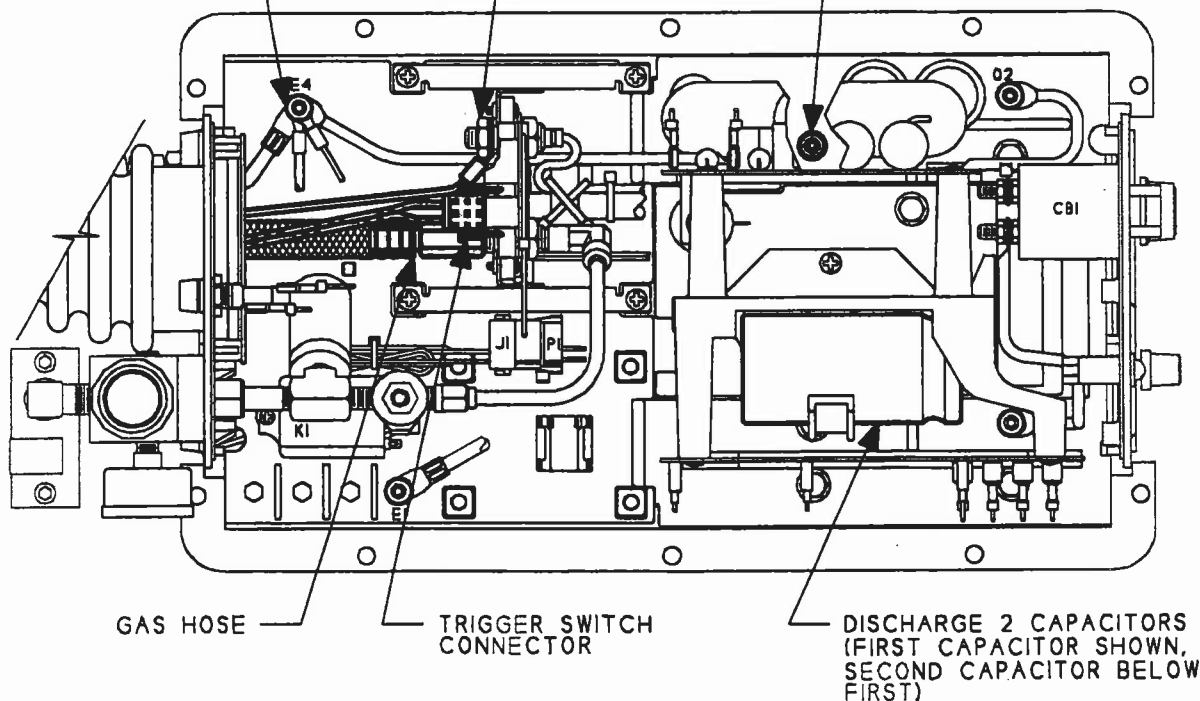

Figure 4 - Top View, Cover Off
Before opening the StarCut case, be sure that the unit is disconnected from the welding power source and that the ground clamp is removed from any possible live metal. The StarCut circuit breaker should be in the OFF position to help prevent electrical shock. Also be sure to **COMPLETE THE CAPACITOR DISCHARGE PROCEDURE** once the case top is removed, and before touching any metal parts inside the StarCut unit. Refer to Figure 4, "Top View, Cover Off" during this section.
- A)  With the StarCut unit disconnected, upright and cure. Remove the nuts from the ten (10) bolts securing the case top and the case bottom which sandwich the white chassis, push out the bolts. Save all hardware for later reassembly. Four (4) bolts will be longer if wireform guards are installed on your StarCut.
- C) Locate the two input capacitors inside the unit as shown in the Figure 4, "Top View, Cover Off". Being careful not to touch any metal parts, connect one end of the bleeder resistor assembly to one of the terminals of the top capacitor and attach the other end of the bleeder assembly to the other terminal. Leave bleeder resistor connected for at least 10 seconds.